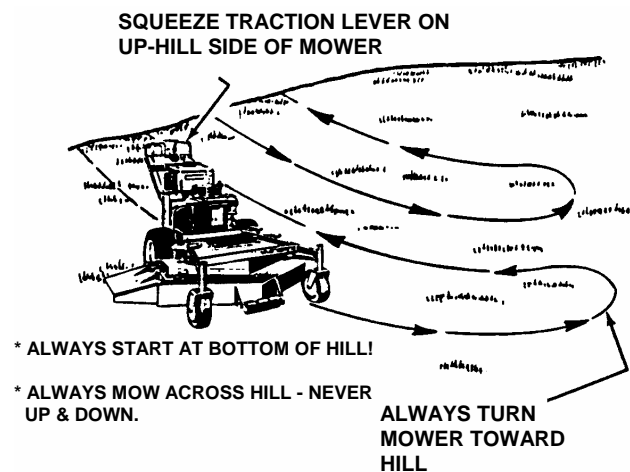

FIGURE 3.6
1. Always mow hillsides starting at bottom of hill. Mow across slopes, never up and down. Exercise CAUTION when changing directions on slopes. **DO NOT MOW STEEP SLOPES.** See Figure 3.6.